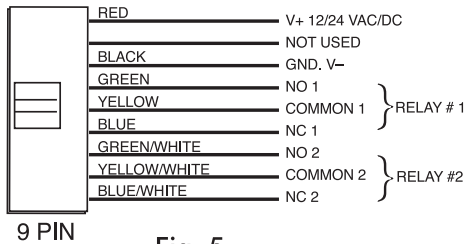

Fig. 5
Step 6. Wire the receiver harness according to the wiring diagram, (See Fig. 5). For ease of installation the wires are color coded. For most standard gate and door installations you will wire the open input of your gate operator or garage door, with the common and NO (normally open) contact of either relay 1, 2 or both. See Fig. 5.